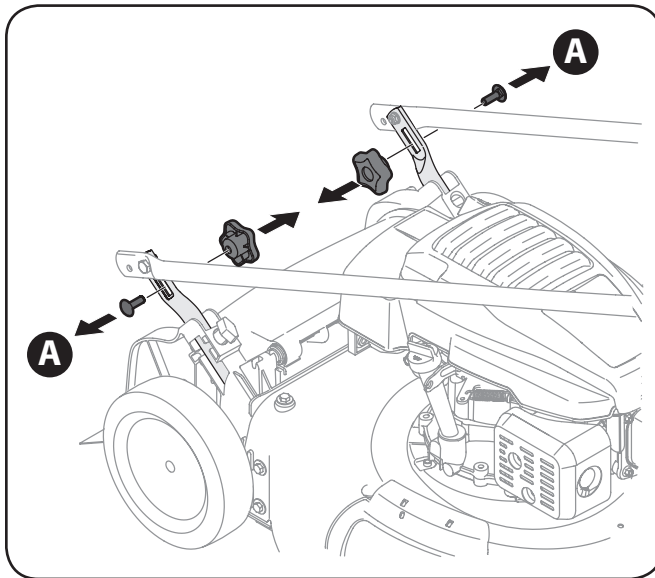

Figure 3-1
- a. Remove star knobs and carriage bolts from handle as shown in Figure 3-1. Do not loosen or remove adjacent hex head screws.